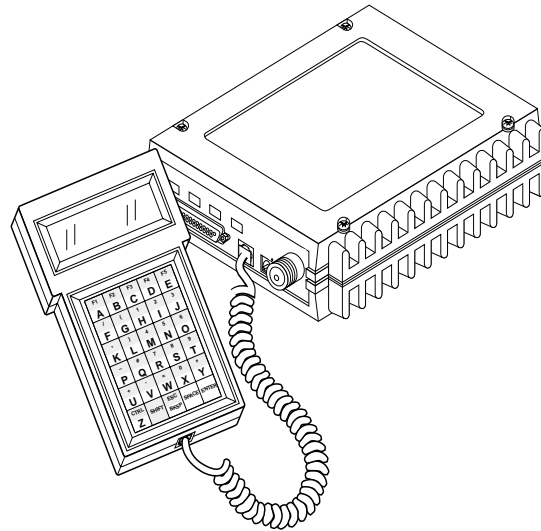

Figure 22. Hand-Held Terminal Connected to the Transceiver
1. Connect the HHT's coiled cord to the **DIAG(NOSTICS)** (RJ-11) jack on the radio as shown in Figure 22. This automatically places the radio into the control and programming mode.